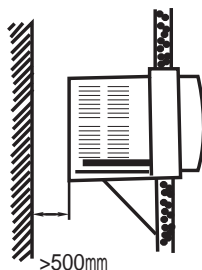

fig.2
4. The back of air-conditioner should be kept over 500mm from the obstacles (for example, wall, etc.) (As illustrated in Fig. 2).